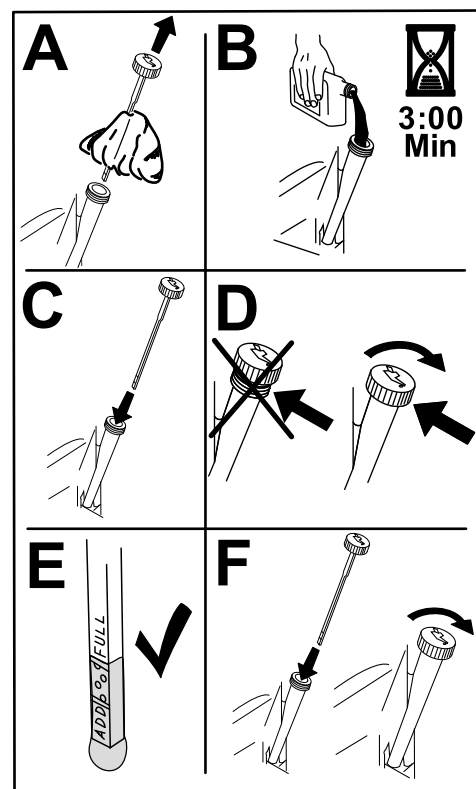

Figure 38
6. Slowly pour approximately 80% of the specified oil into the filler tube and slowly add the additional oil to bring it to the **Full** mark (Figure 38).